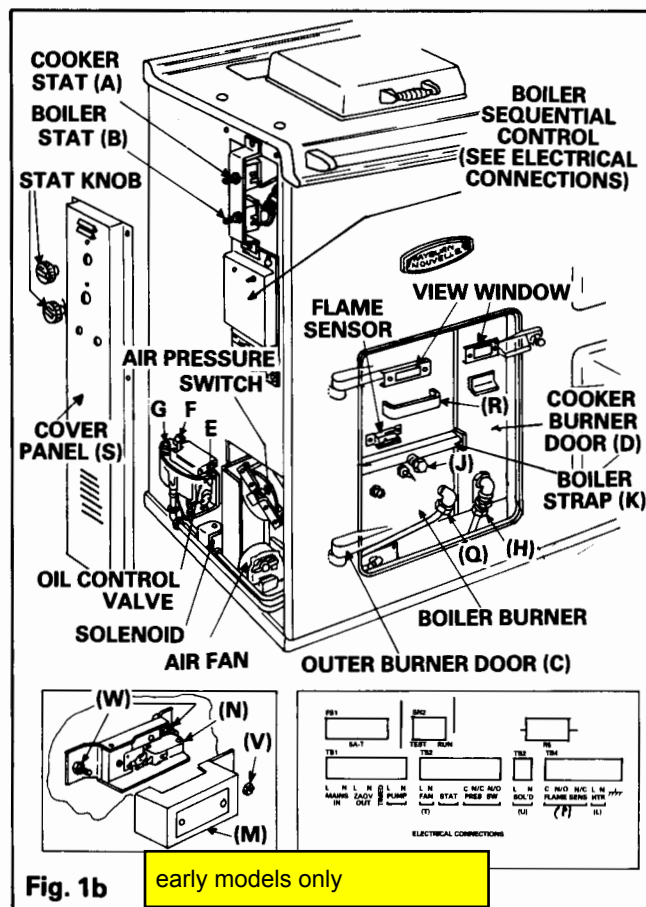

Fig. 1b
- To Remove Boiler Burner – See Fig. 1b
- Isolate the electricity supply (switch **OFF** and remove plug), remove the side cover panel **S** via its fixing screws and then remove mini-plug lead connected to terminal block position 'SOL' on sequential control box – See Fig. 1b.
- Isolate the electricity supply (switch **OFF** and remove plug), remove the side cover panel **S** via its fixing screws, and then remove mini-plug lead connected to terminal block position 'FAN' on sequential control box – See Fig. 1b.
- Isolate the electricity supply (switch **OFF** and remove plug), remove the side cover panel **S** via its fixing screws – See Fig. 1b.